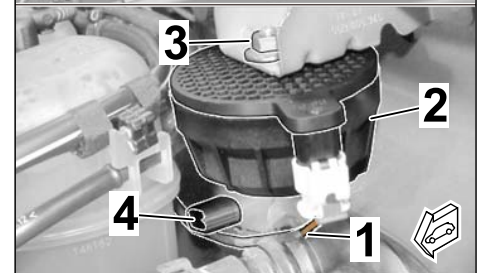

Figure 19
2.3 Fit engine noise pulse sender (\Rightarrow Figure 19)
2.3.1 Route branch with connector (2-pin) to the engine noise pulse sender holder (\Rightarrow *Figure 19-top*).
Secure engine noise pulse sender, facing downwards, in the plenum panel holder using M6 hexagon nut (1 x) (\Rightarrow *Figure 19*)